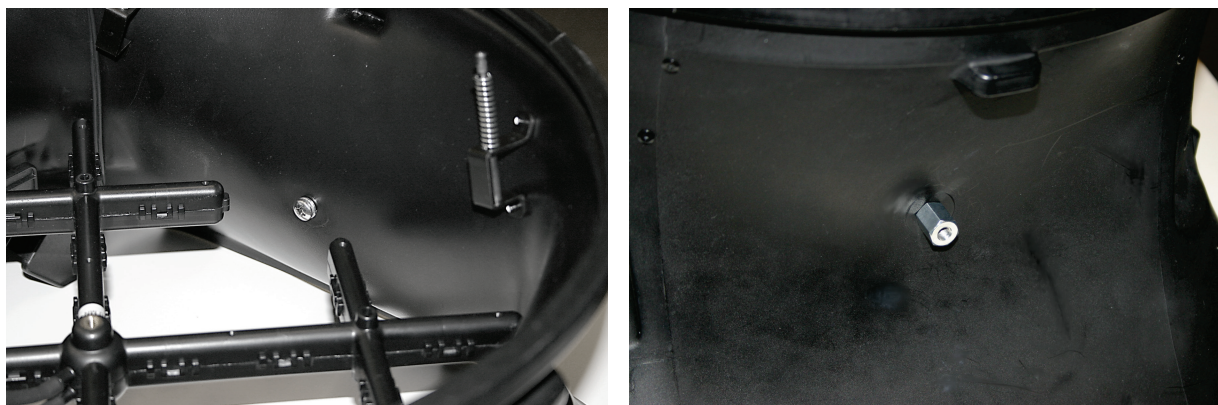

Figure 25: Remove Plug Located at Back of Base Assembly
1. Remove the plug located at the back of the base assembly and insert the Philips screw with washer into the hole from the inside of the base (see Figure 25). Place the threaded insert on the outside of the base opposite the screw and tighten with a Philips screwdriver.